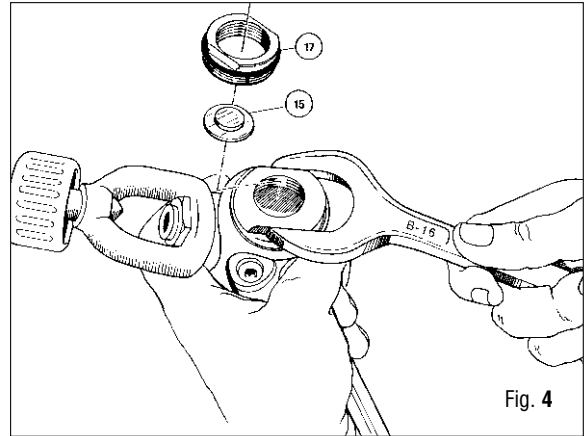

Fig. 4
10. Use wrench B-16 to unscrew retaining nut (17) and remove spring base plate (15). (Fig. 4)